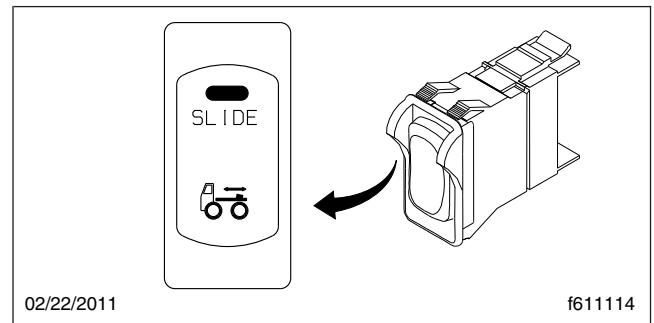
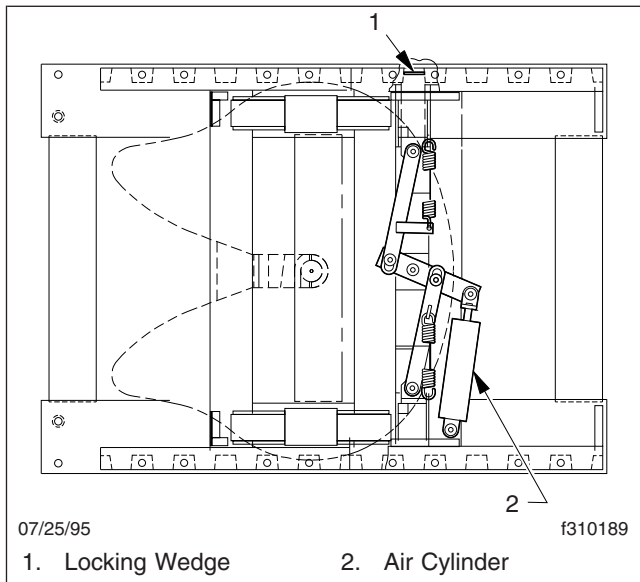
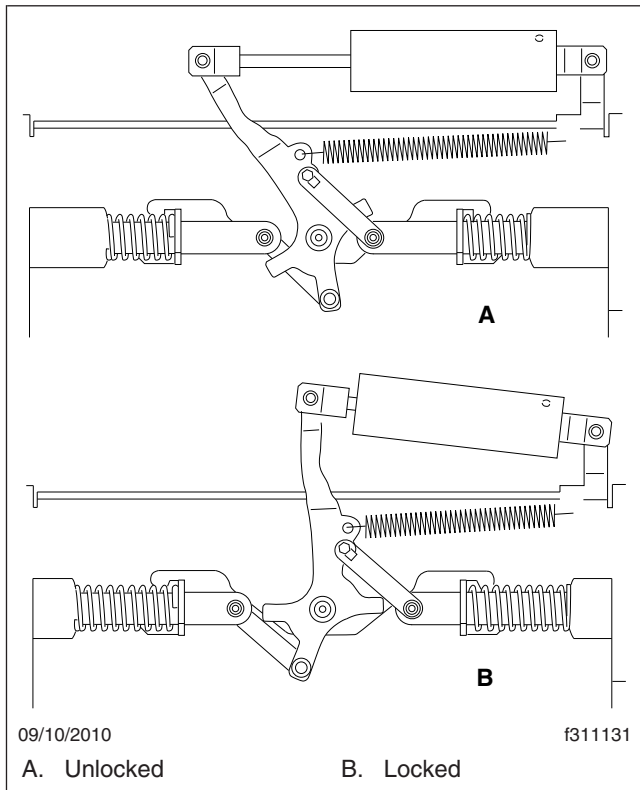

Fig. 10.14, Air-Slide Switch
Fig. 10.15, Air-Operated Sliding Fifth Wheel (Fontaine shown)
Fig. 10.16, Jost Sliding Fifth Wheel
The slide feature may be operated with an air switch mounted in the dash, that operates an air cylinder that locks and unlocks the slide. See Fig. 10.14.
1. Set the air-slide switch to UNLOCK. See Fig. 10.14. Ensure the locking plungers have released. See Fig. 10.15. For Jost fifth wheels, the mechanism activates as shown in Fig. 10.16.